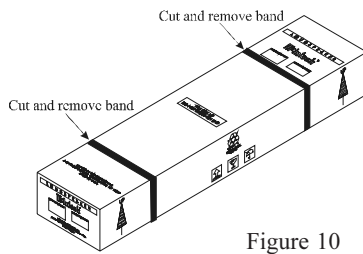

Figure 10
1. Remove the banding material from the shipping carton. Refer to figure 10.